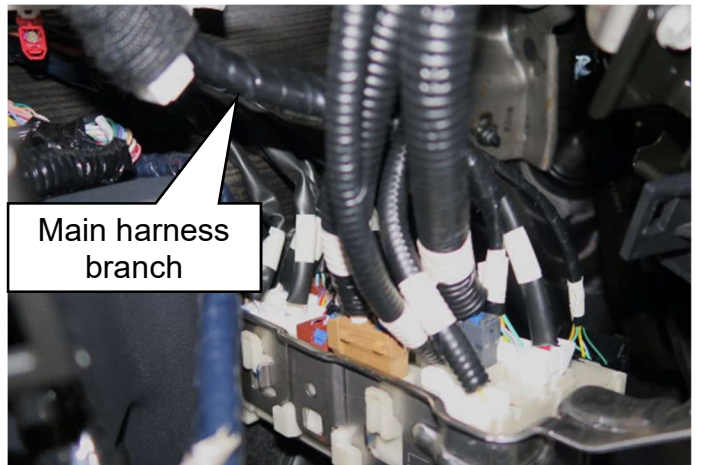

Figure 10
- Lower the fuse block downward and position it to allow access to the Main harness branch (Figure 10)